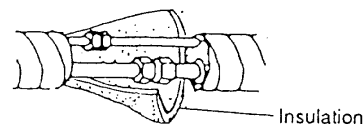

Fig. 7
3. After performing a leak test on the connecting part insulation and finish with a vinyl masking tape over it. Fig. 7